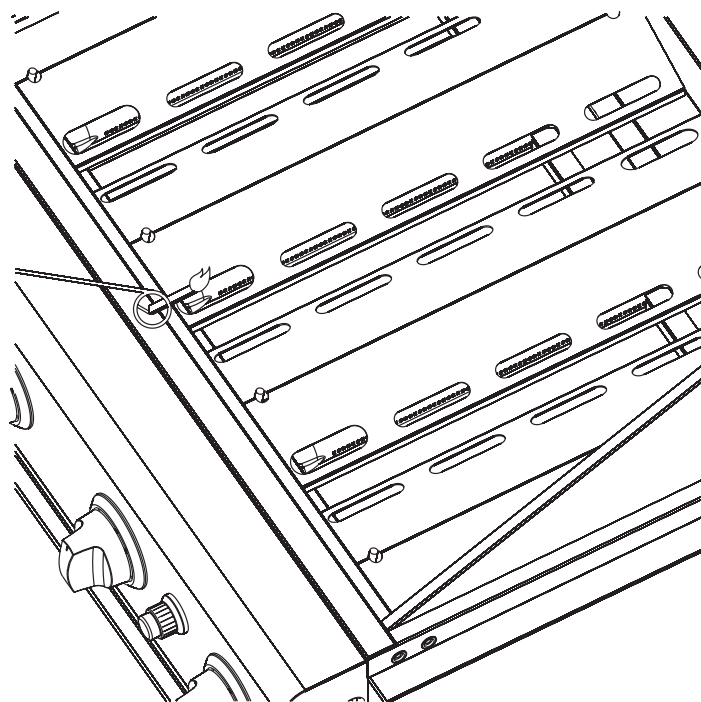

Figure 13
6. Insert the ignitor rod through the right hole located on the flame tamers of the grill. Position the match near the front corner of the burner. **See Figure 13.**